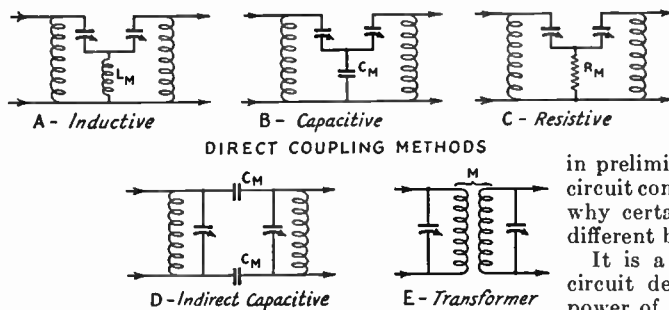

Fig. 316 — Basic types of circuit coupling.
Resonant circuits are not used alone in very many instances but are usually associated with other resonant circuits or are *coupled* to other circuits. It is by such coupling that energy is transferred from one circuit to another. Such coupling may be *direct*, as shown in A, B and C of Fig. 316, utilizing as the mutual coupling element, inductance (A), capacitance (B) or resistance (C). These three types of coupling are known as *direct inductive*, *direct capacitive*, or *direct resistive*, respectively. Current circulating in one *LC* branch flows through the common element (*C*, *R* or *L*) and the voltage developed across this element causes current flow in the other *CL* branch. Other types of coupling are the *indirect capacitive* and *transformer* or *inductive* shown below the others. The coupling most common in high-frequency circuits is of the latter type. In such an arrangement the coupling value may be changed by changing the number of active turns in either coil or by changing the relative position of the coils (distance or angle between them).